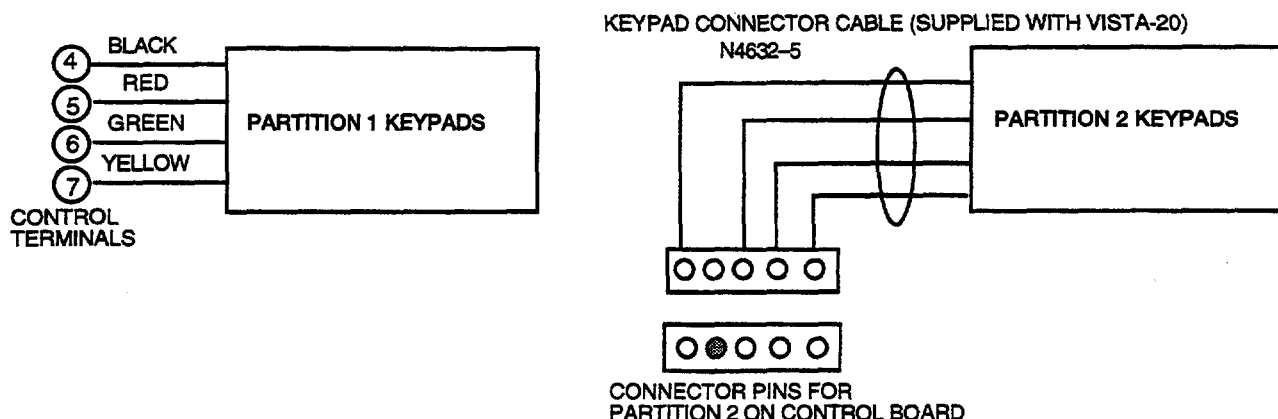

Figure 6. Keypad Connections To The Control Board
3. Connect remote Keypads for Partition 1 to terminals 4, 5, 6, and 7 on the control board, as shown in Figure 6.